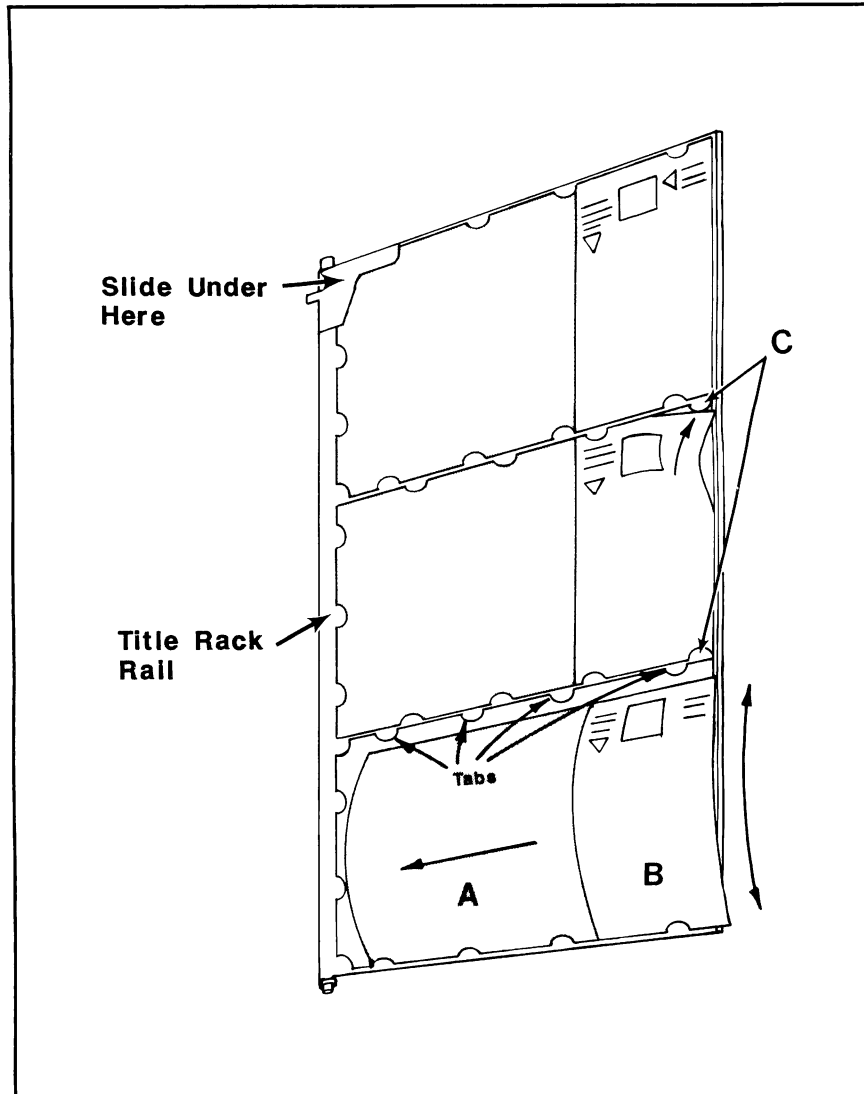

Figure 3-5. Loading the Title Rack
5. Insert the CD booklet under the top and bottom tabs of the title rack. Slide the CD booklet toward the pivot of the title rack until the booklet is trapped by the molded stops on the title page (see *figure 3-5, ref A*).
6. Insert the folded title strip under the top and bottom tabs of the title rack. Slide the title strip until the disc number shows in the opening of the title strip and the title strip is locked in place by the molded stops (*see figure 3-5, ref B*).
7. All of the tabs surrounding the CD booklet and title strip should be holding them in place. If you missed a tab, carefully tuck the loose paper under the tab as shown in *figure 3-5, ref C*.